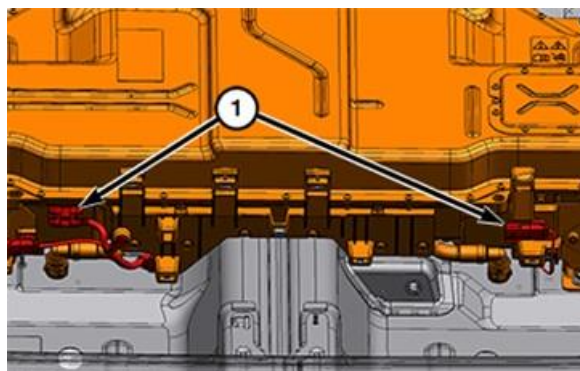

Figure 24 – HV Wire Harness Connectors
38. Disconnect the HV wire harness connectors (1) (Figure 24).
52. Connect the three HV wire harness connectors (1) (Figure 24).